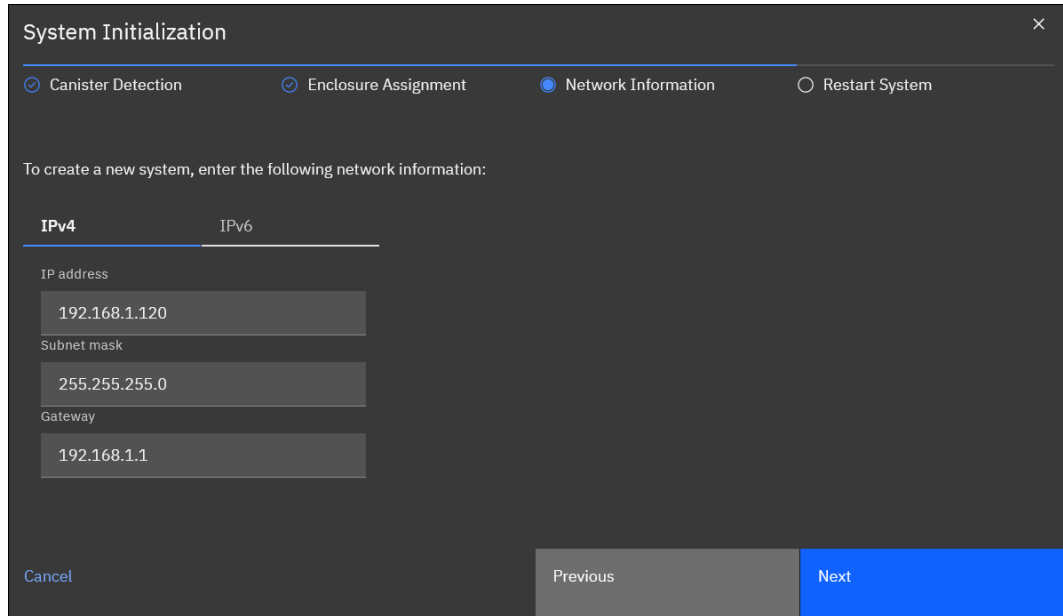

Figure 2-13 System Initialization: Enter Management IP
6. Enter the management IP address information for the new system as shown in Figure 2-13. Set the IP address, network mask, and gateway. Click **Next**.